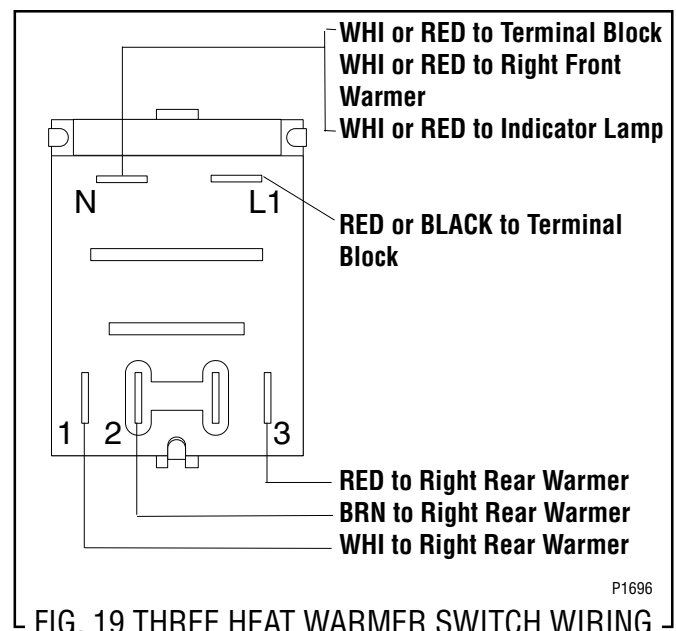

FIG. 19 THREE HEAT WARMER SWITCH WIRING
4. Refer to FIG. 19 when reconnecting the wires.